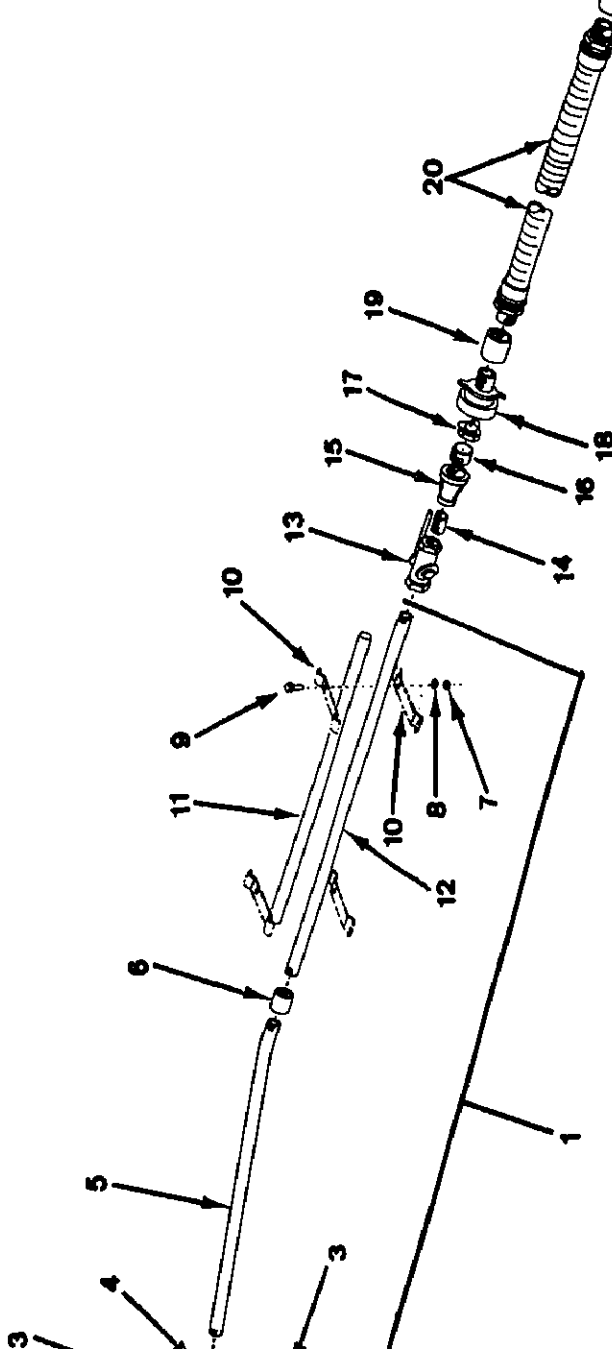

Fig. 3-18:
b. Refer to figure 3-18 for shutoff valve